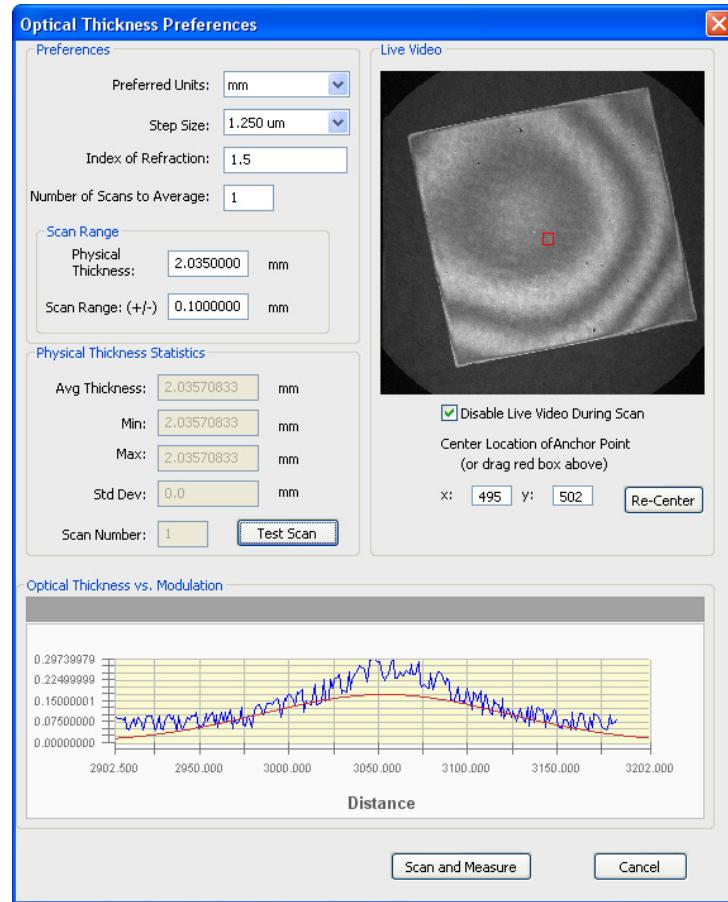

Figure 143: Optical Thickness Options Dialog Box.
1. Click the **Thickness** button on the Measurement Screen to open the **Optical Thickness Preferences** dialog box (Figure 143).